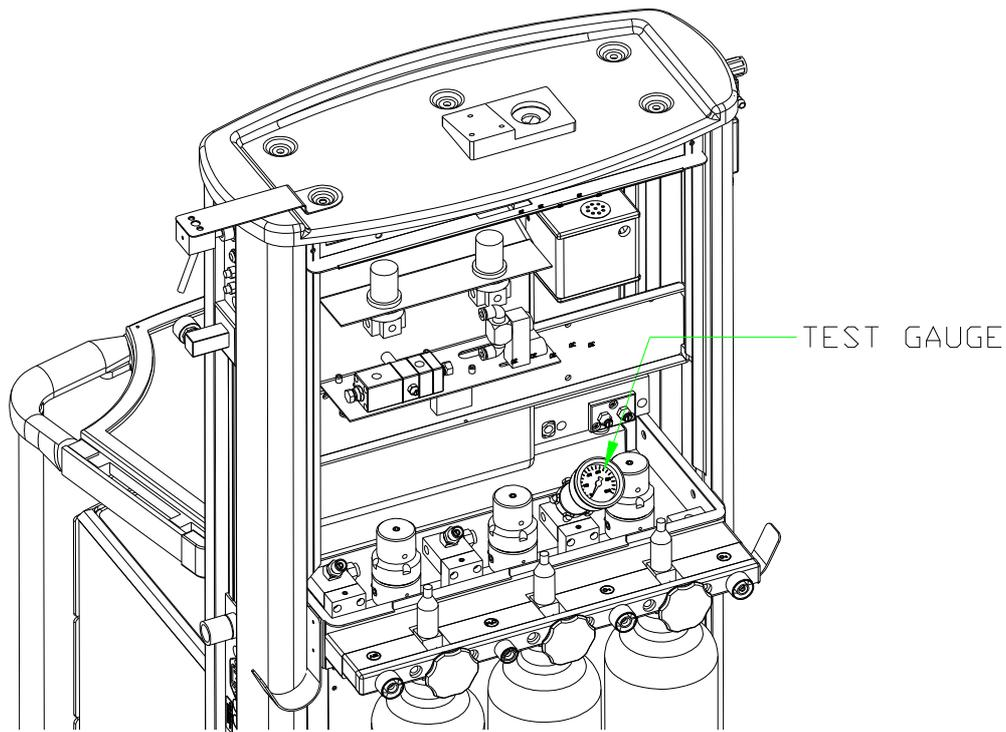

Figure 11: Test Gauge on Manifold
- b. Connect a test gauge manometer (1000 kPa) to the connector of manifold connected to RG1 under test (see Figure 11).